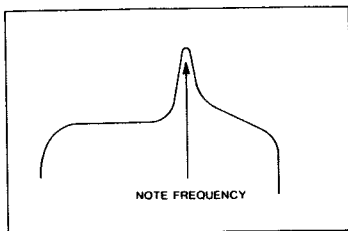

Fig. 2.9 Depth Control
- (j) Adjust controls as follows. First set 'cut' control to minimum and note the peak resonance frequency (Fig. 2.9).